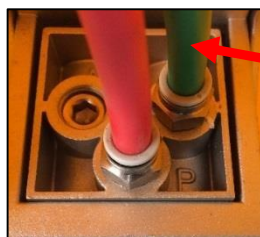
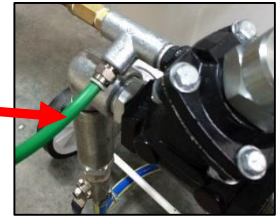

FIGURE 15
FIGURE 18
- 3.8.2 Green tubing – Connect one end to the port marked “B” on the foot pedal, (see figure 15) with the opposite end to the door interlock valve (see figure 16). The second green tubing returns from the interlock valve (see figure 17) with the opposite end connected to the control line side of the air control valve (see figure 18).